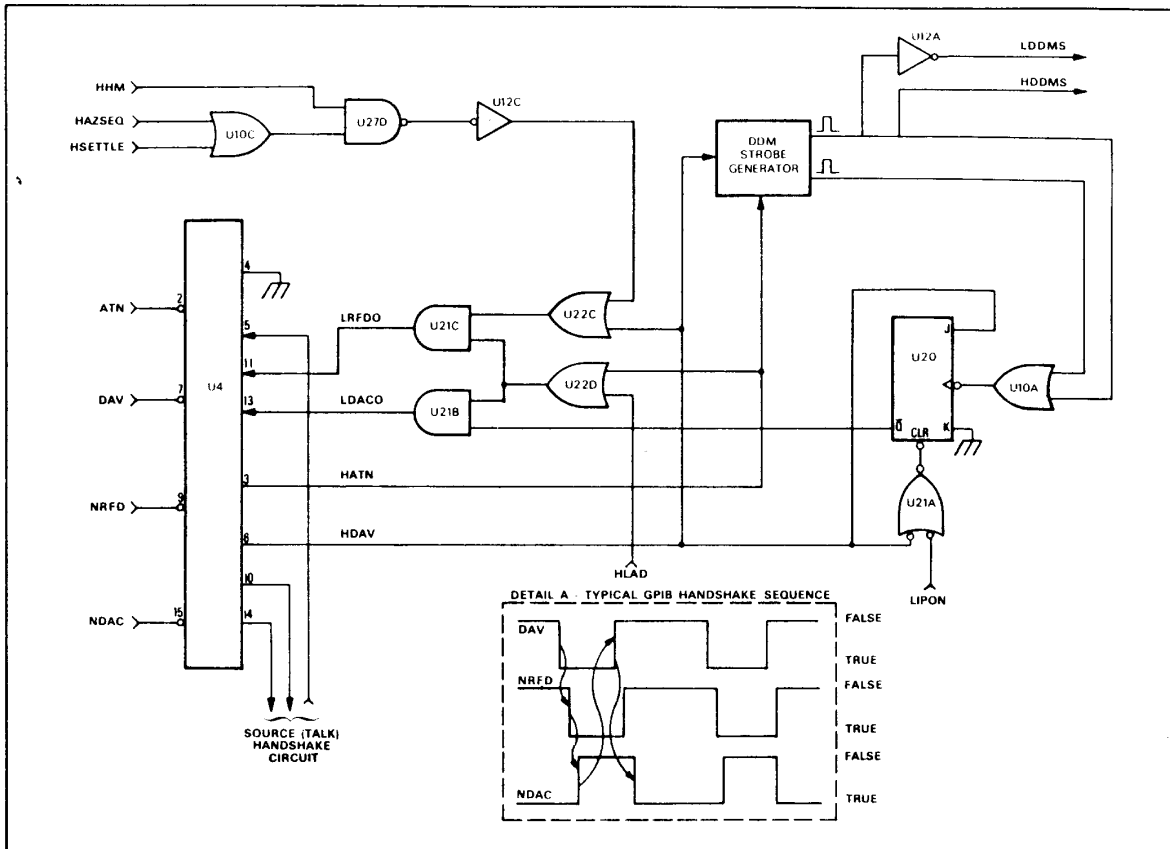

Figure 7-104. Acceptor Handshake Circuit, Simplified Schematic
This circuit (1) monitors the ATN management, DAV handshake, and HLAD control lines, and (2) handshakes (communicates) with the talker when the logic states of ATN, HLAD and DAV indicate handshaking is required. The handshake cycle and the two conditions under which handshaking occurs are described below. The full schematic for this circuit is shown in Figure 7-102, the parts locator diagram is shown in Figure 7-103, and a simplified schematic is shown in Figure 7-104. Refer to Figure 7-104 for the following discussion.
- a. The GPIB Acceptor Handshake Cycle. This cycle (Detail A, Figure 7-104) involves a three-part interchange between the talker (controller) and the listener (560A acceptor handshake circuit). The first part of the interchange occurs when the 560A circuit senses the DAV line is LOW. When DAV is sensed to